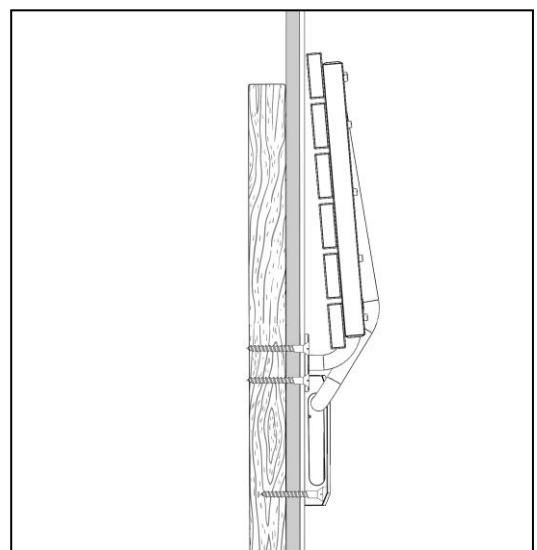

Figure 2
3. Hold the seat to the wall in the folded (up) position (see Fig. 2), align the brackets to the holes and attach the **Left and right support brackets (part#03)** using 6 of the **ST5 x 70mm screws (part# 06)**